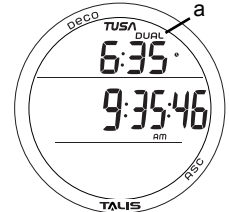

Fig. 7C - DEFAULT TIME
Dual Time, identified by the AWAY icon (Fig. 7C a), is an additional time which is usually Alternate Time but can be Main Time depending on which one is not selected to be the Watch Default.
- When an Alternate Time is set, and Show Dual Time is set for YES, both Times will be displayed on the Watch Default Time screen (Fig. 7C).